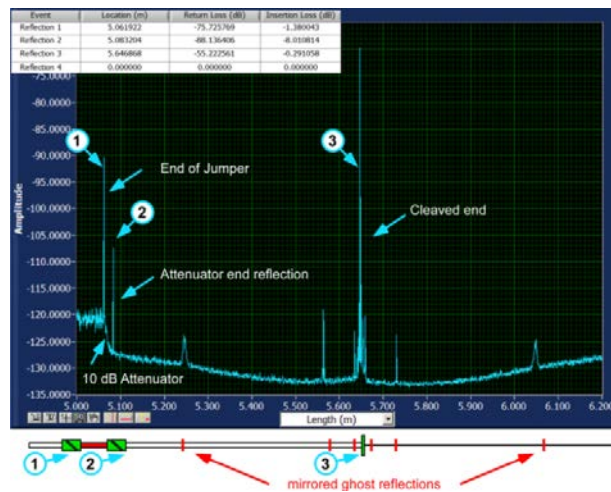

Figure 14 The Rayleigh scatter of a versus position of a cleaved fiber attached to 10 dB attenuator attached to an optical jumper
*Figure 14* shows the RL versus position of the cleaved fiber attached to the attenuator after ~1 second of averaging (10 averages). The end reflection of the jumper, attenuator and the cleaved fiber are clearly visible. The spatially symmetric side lobes about the cleaved end are still evident but are reduced in number and in magnitude. Subtracting the location value between the cleaved end and the attenuator, we find the jumper length to be 0.5636 meters. Note that the 3 largest peaks in the measurement are the cleaved end, jumper end and attenuator end.